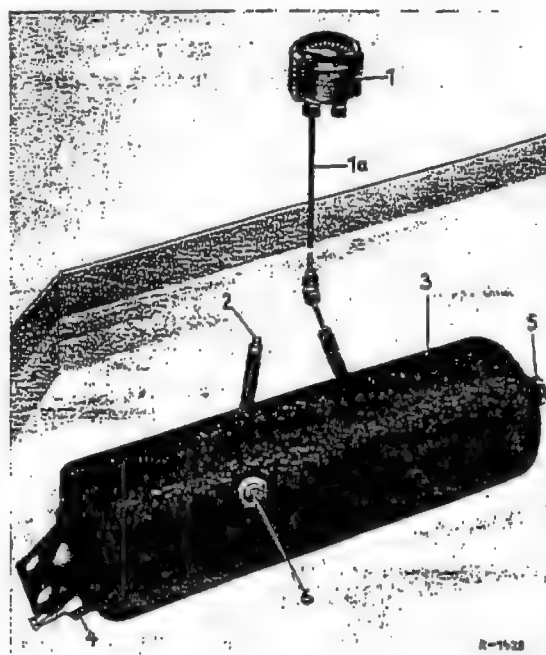

Fig. 32-16/2
7. Fill the air reservoir at the filler valve to the prescribed test pressure (see Job No. 32-0) and check for leaks under water (Fig. 32-16/2).